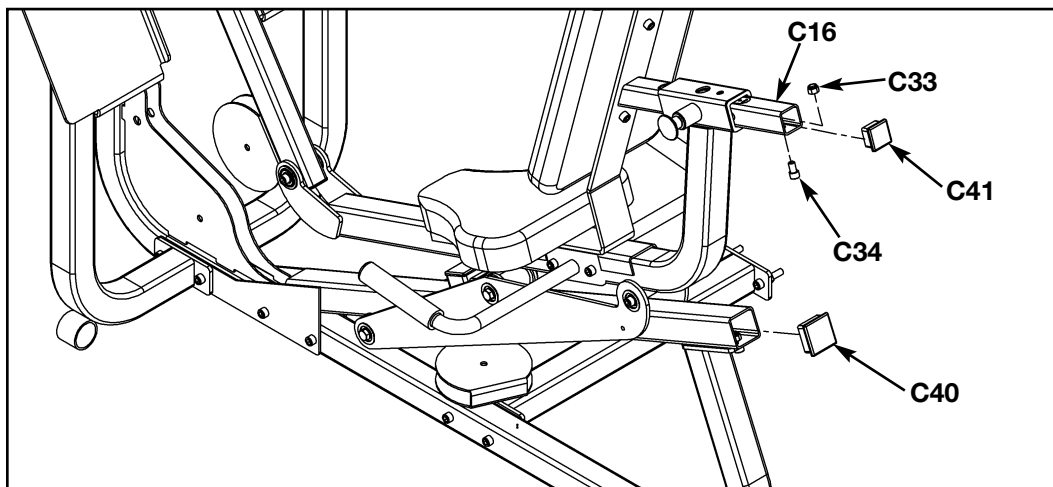

Figure 15
- F. Secure with SHCS .375-16 x .625 (#C34) and nylon locknut (#C33) as shown in Figure 15. Securely tighten all hardware.
- H. Using a rubber mallet, install plastic insert (#C41) into seat tube (#C16) as shown in Figure 15.
- I. Using a rubber mallet, install plastic insert (#C40) into roller tube as shown in Figure 15.